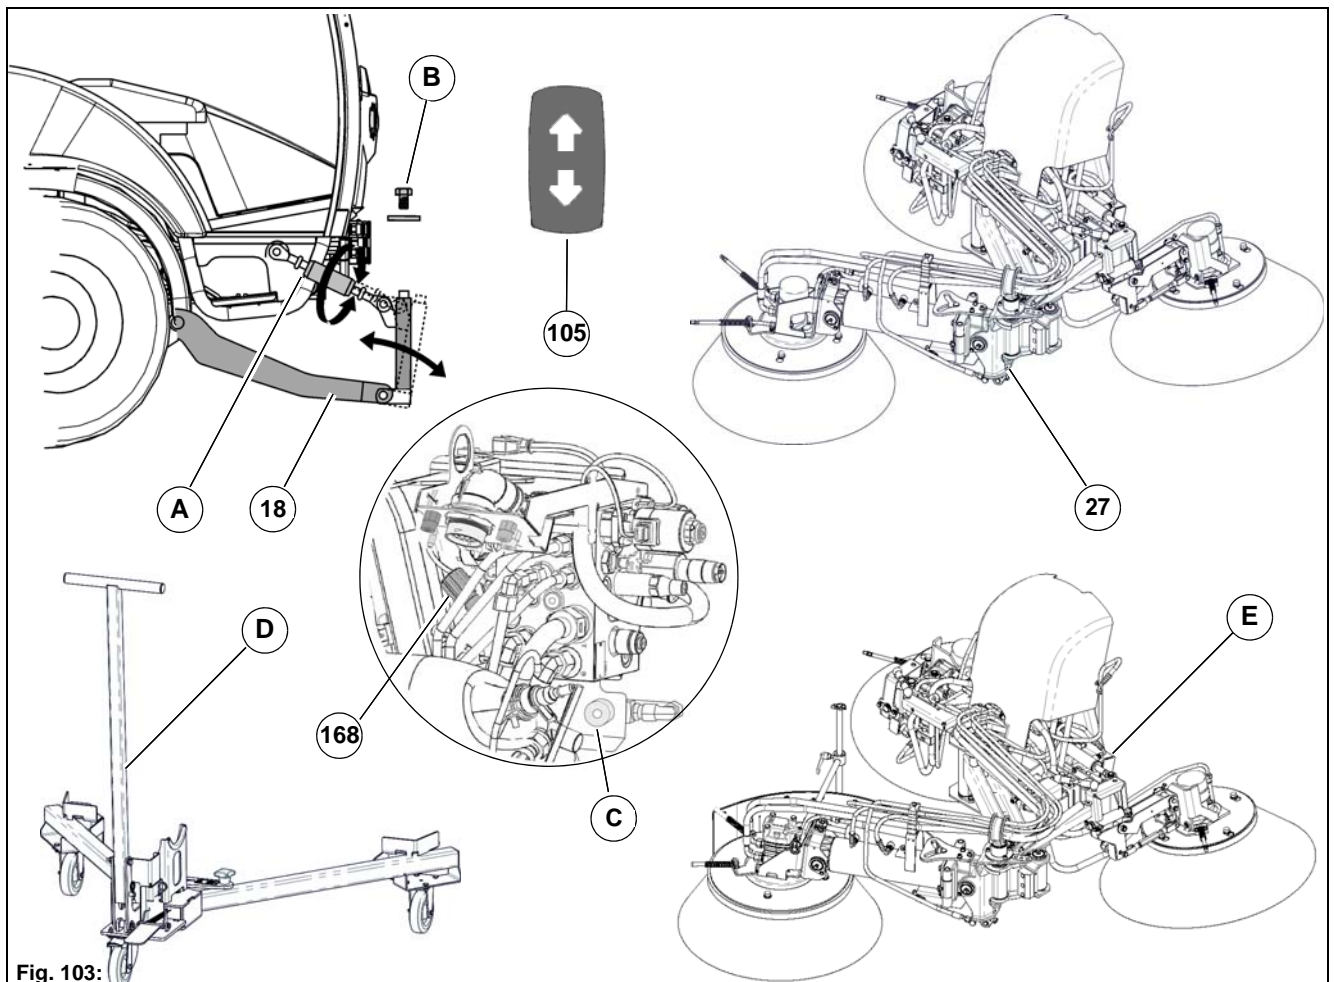

Fig. 103:
2. Use the upper link **Fig. 103-A** to adjust the raised front tool carrier **Fig. 103-18** vertically.
4. Remove the M16 fastening bolt and the washer **Fig. 103-B** of the front tool carrier.
5. Use the trolley **Fig. 103-D** (option) to align the sweeping unit **Fig. 103-27** centrally and in alignment with the front tool carrier.
7. Hold the front tool carrier in the raised position with the throttle valve **Fig. 103-168**. If necessary, adjust the lowering speed of the suction mouth with the throttle valve **Fig. 103-C**.
With the option 'sweeping unit with weed brush' **Fig. 103-E**, carry out installation accordingly.